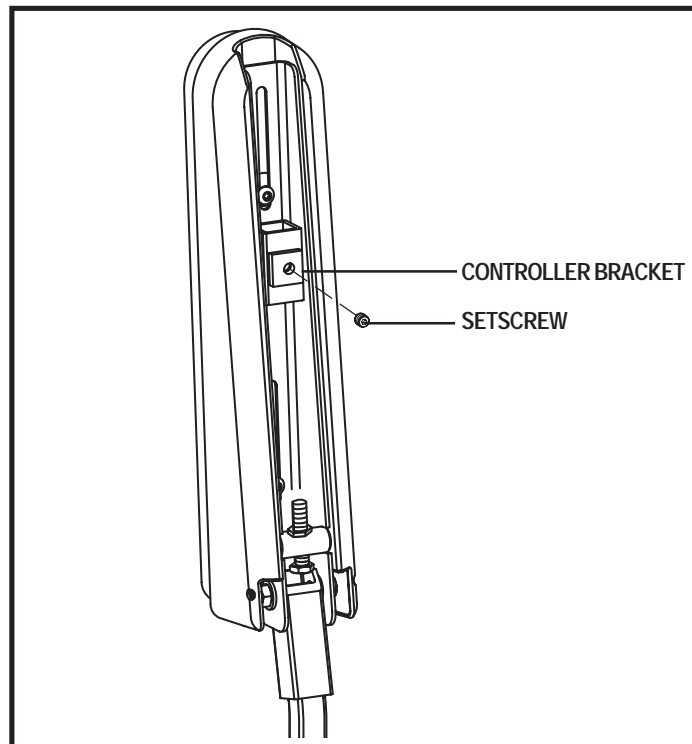

Figure 15. Underside of Armrest
2. Loosen the setscrew on the controller bracket. See figure 15.
6. Loosen the setscrew on the controller bracket. See figure 15.